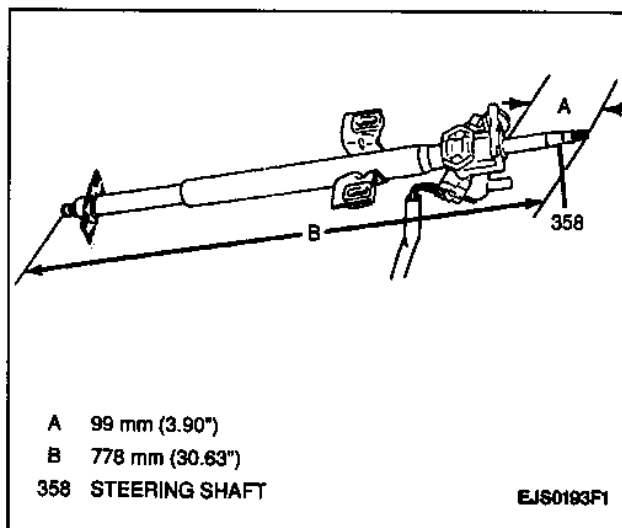

Figure 23—Measuring Steering Shaft
1. Steering shaft length. If the length is shorter than specification, replace the column assembly (Figure 23).